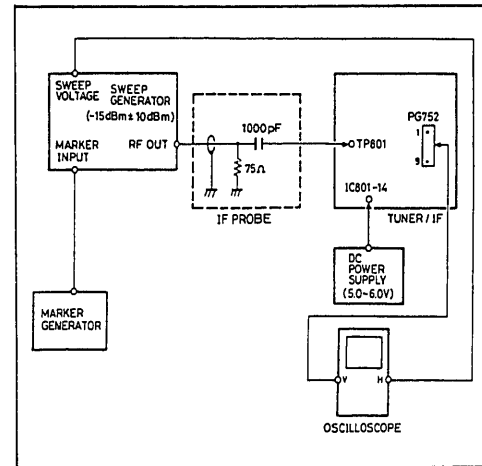

Fig. 13 AFC
- 4) Adjust the Picture-IF control (L805) for maximum detection of 45.75 MHz marker. (Fig. 13)
- 6) Adjust the 41.25 MHz Trap control (L804) for minimum 41.25 MHz marker. (Fig. 13)